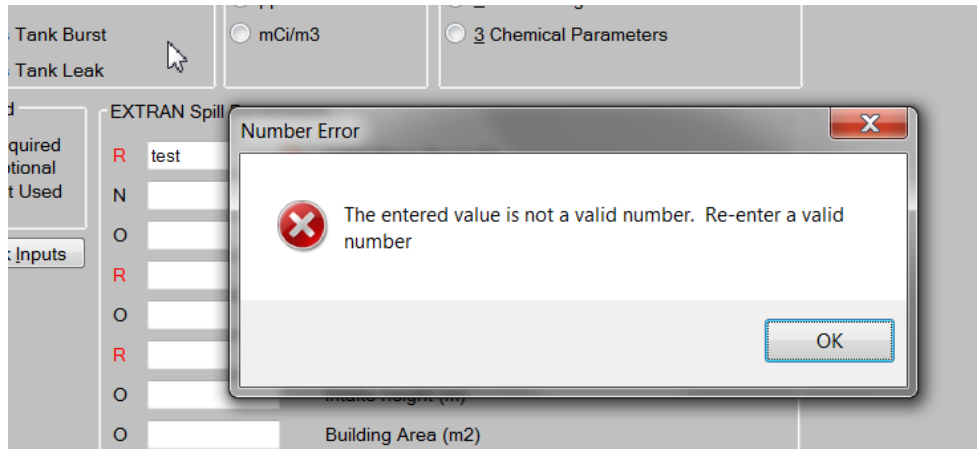

Figure 5-4: Error Message - invalid input
2. Field validation errors (see Figure 5-4: Error Message - invalid input)